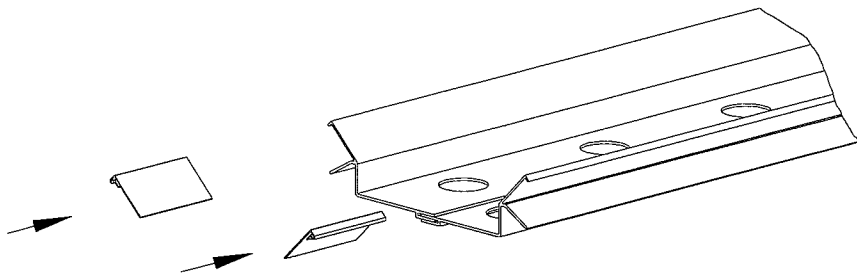
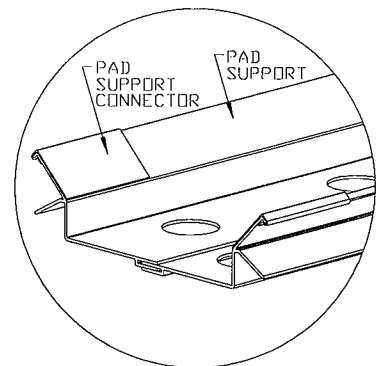

Figure 11
Figure 12
- D) Locate the pad support connectors and slip the pad support connectors on all pad supports except the first pair as shown in Figure 11 and Figure 12.